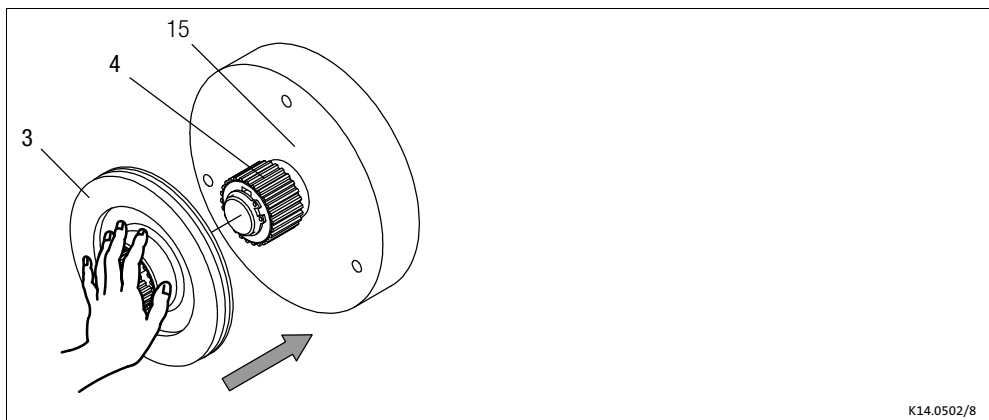

Fig. 2 Rotor mounting
1. Push the rotor (3) onto the hub (4) and check whether it can be moved by hand (Fig. 2).